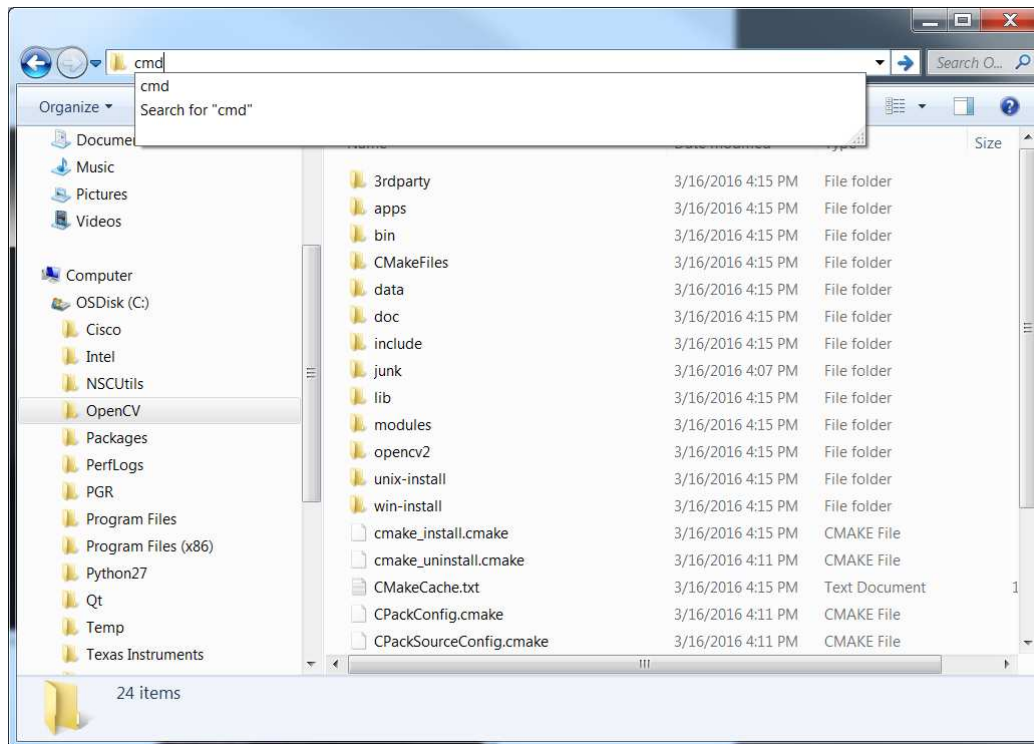

Figure 35. Open Command Line in OpenCV Window
12. Next, in File Explorer, browse to where the OpenCV files were built. In the file path line, type "cmd" as shown in Figure 35. This will open the command line window in the folder selected.